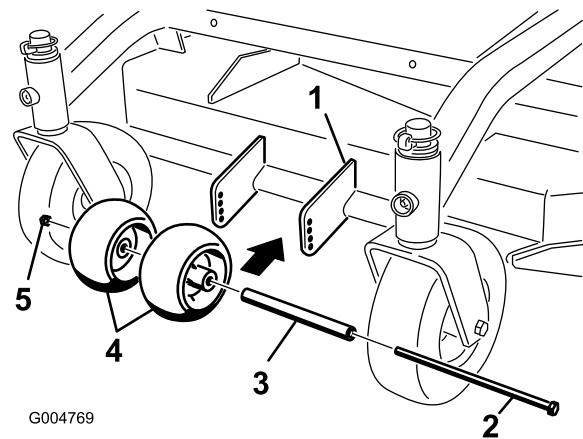

Figure 13
1. After adjusting height-of-cut, check the anti-scalp rollers so that there is a minimum of 3/8 inch (10 mm) clearance above the ground (Figure 13).
2. If adjustment is needed, remove the bolt, washers and nut (Figure 13).
3. Select a hole position so the anti-scalp rollers are a minimum of 3/8 inch (10 mm) off the ground (Figure 13).
4. Install the bolt and nut (Figure 13).